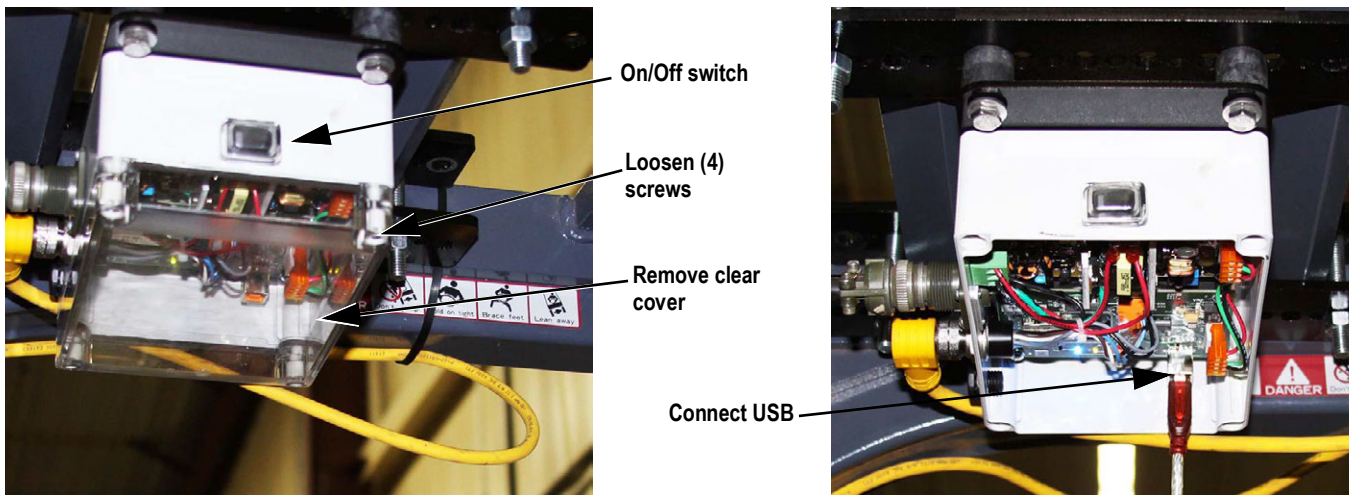

Figure 4-41. Connect USB to Power/Communication Box
7. Turn on the power/communication box (See Figure 4-41 on page 38). Wait for computer to recognize the new hardware.